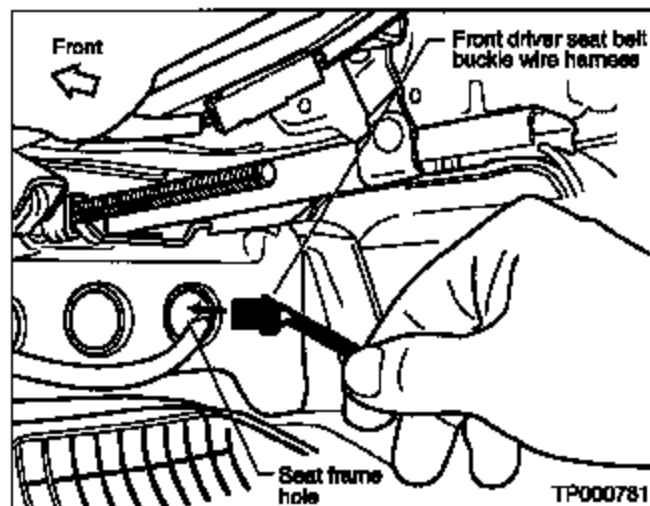

Figure 20
- A. Route the seat belt buckle wire harness and connect it to the mating vehicle harness (see Figure 20).